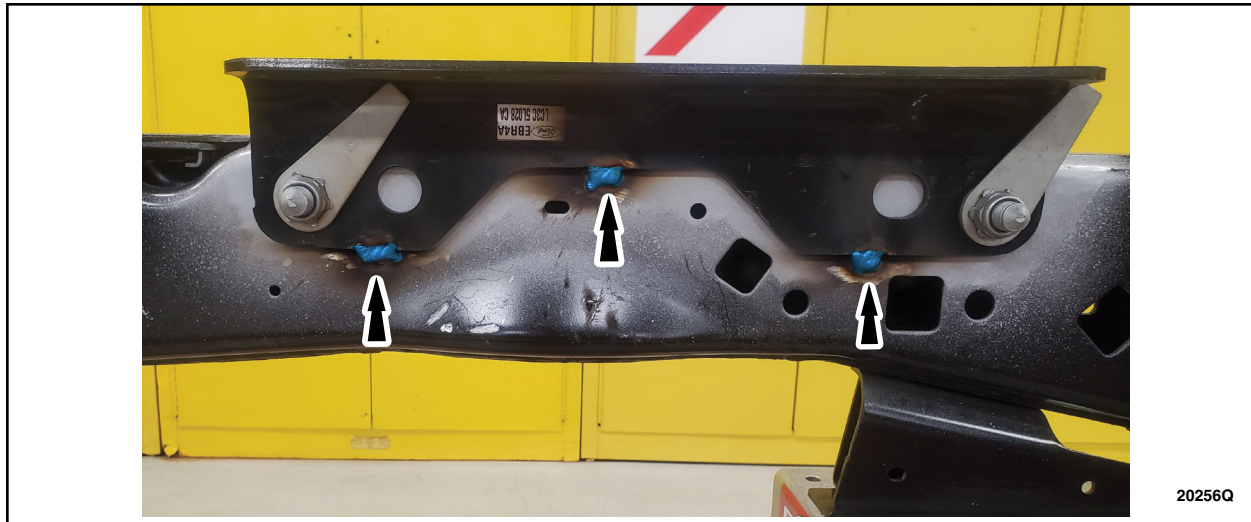

FIGURE 25
33. Tack weld the new bracket to the frame in the locations shown. See Figure 25.